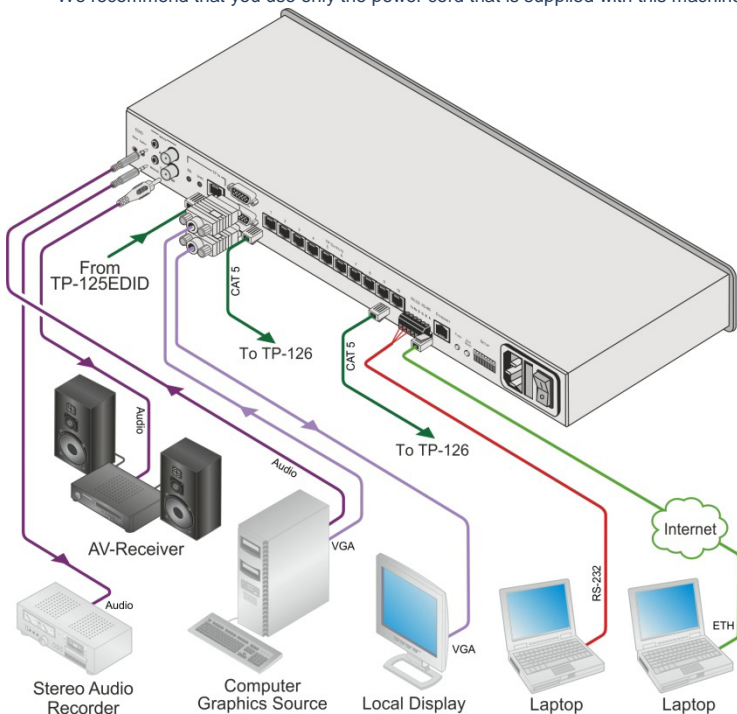

Figure 3: Connecting the TP-410, UXGA-Audio-RS-232 Line Transmitter / DA
To connect the **TP-410**, as illustrated in the example in Figure 3:
5. Connect the OUT unbalanced stereo audio and/or S/PDIF to unbalanced audio and/or digital audio acceptors, respectively (not shown in Figure 3).
9. Connect the power cord (not shown in Figure 3).